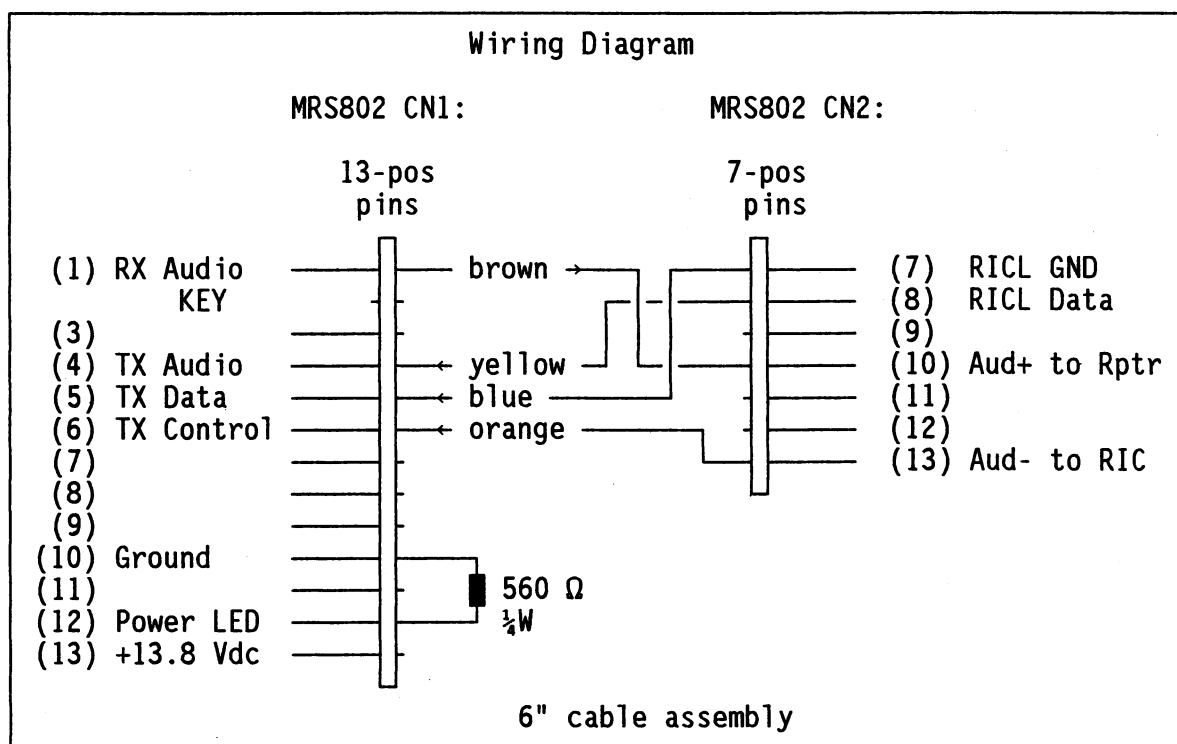

Figure 4-25 - Zetron/Uniden MRS802 Jumper Cable (P/N 709-7153)
- []6. Connect the Zetron jumper cable (in the 815-9072 cable kit) between CN1 and CN2. The 7-position Zetron jumper connects its orange wire to CN2's orange wire. The 13-position end connects its red wire to CN1's red wire. This jumper cable is depicted in Figure 4-25.